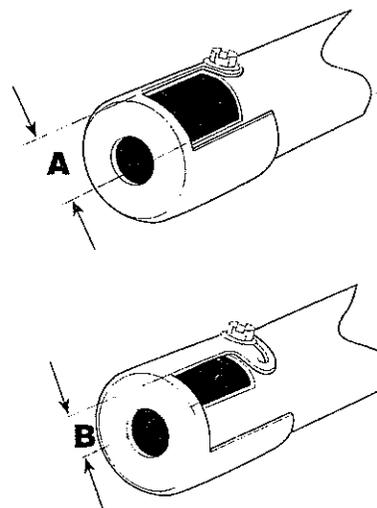

Figure 48. Air shutter settings
Generally the shutter should be set fully open, (A, Fig 48). Closing the shutter (B) lets in less air and produces a yellowish flame. Closing the shutter too much may result in a stringy orange flame; it may be prone to sooting. Opening the shutter lets in more air and results in a bluer flame. After a technician has adjusted the shutter, run the fireplace for at least one hour to determine the effect of the setting change. If soot appears on the glass, the air shutter must be opened to eliminate the condition.
2. Loosen the shutter locking screw enough to adjust the setting as needed and retighten. Figure 48.